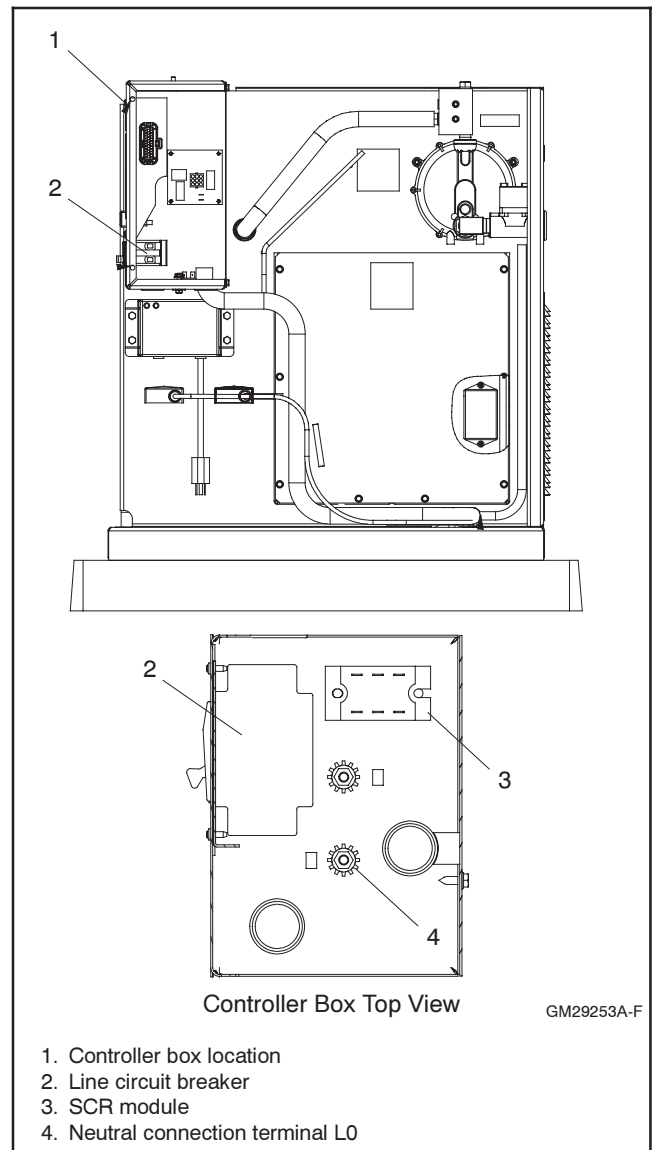
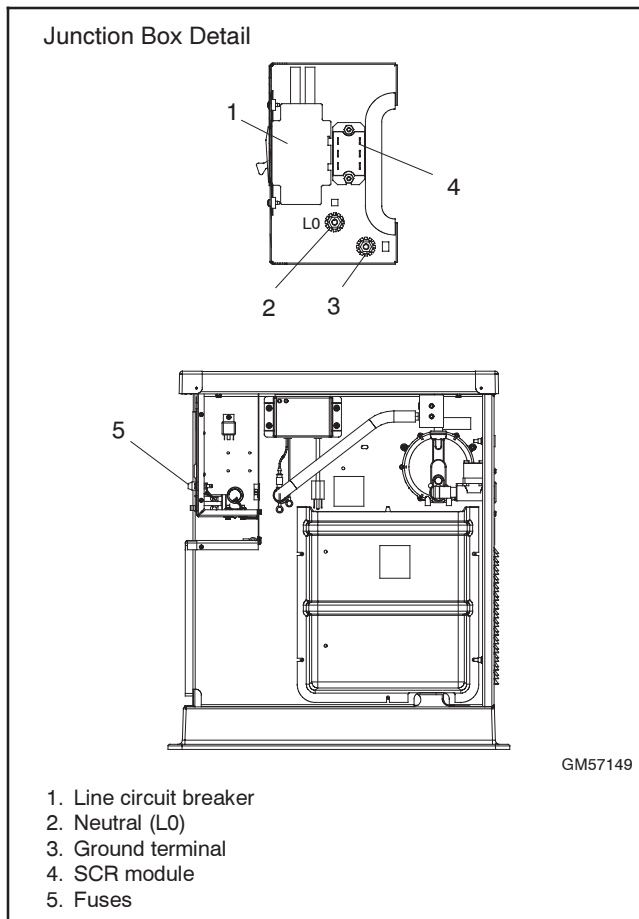

Figure 7-4 Alternator Connections inside Controller Box, ADC 2100
Figure 7-5 Alternator Connections inside Controller Box, ADC-RES
2. Note the alternator connections inside the controller box for reconnection later. Disconnect the alternator leads inside the controller box. See Figure 7-4 or Figure 7-5 and the wiring diagrams in Section 8.